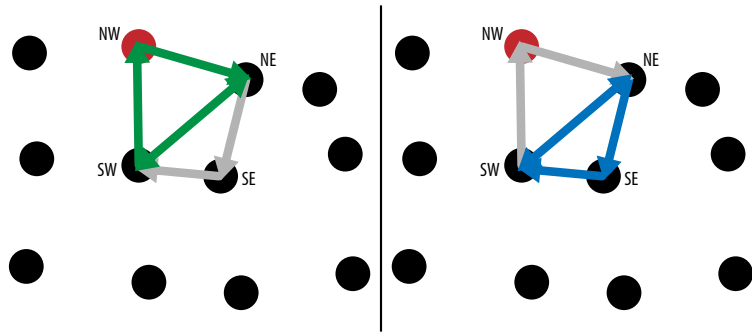

Figure 5-13. The two triangles that connect a depth point with its neighbors.
10. Once we've calculated these four indices we can access the depth points that will make up the vertices of the triangles we're going to add to our mesh. But now the question presents itself: which vertices should we connect to form each triangle and in what order? We know from our earlier experience working with MeshLab that we want to add vertices clockwise so that we follow the righthand rule as illustrated in Figure 5-5. So, in this case, we'll split the surface defined by our four vertices into two triangles: NW to NE to SW and NE to SE to SW, as shown in Figure 5-13.